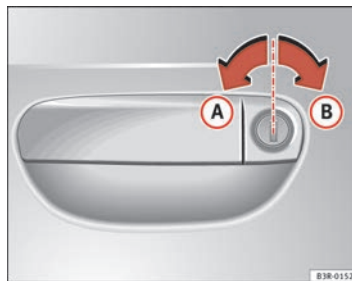

Fig. 70 Turning the key to enable the open and close functions
- To unlock the vehicle, turn the key in the driver's door to position **A** $\Rightarrow$ fig. 70.
- To lock the vehicle, turn the key in the driver's door to position **B** $\Rightarrow$ fig. 70 $\Rightarrow$ .
To do so, turn the key in the driver's door **twice** in quick succession to position **B** ⇒ page 99, fig. 70.